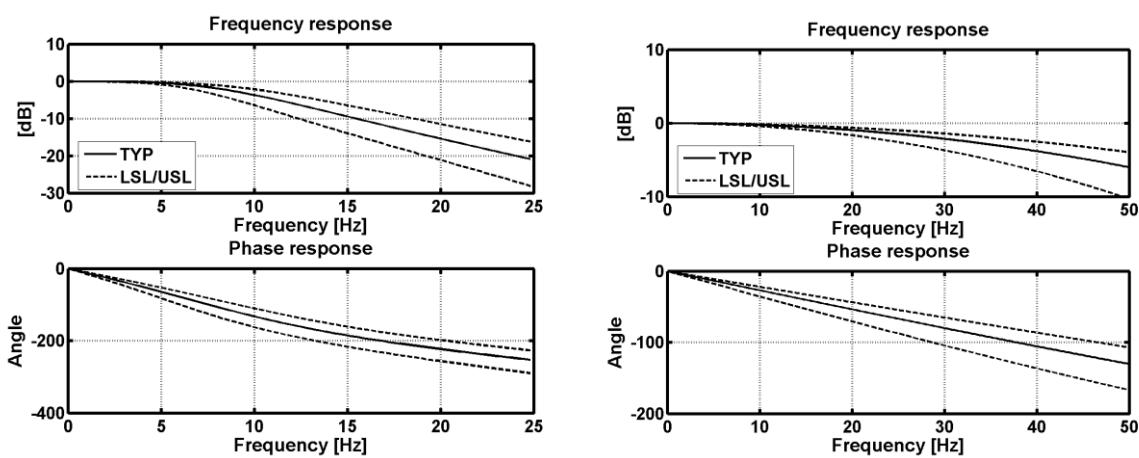

Figure 4 Frequency response of SCA3060-D01 in measurement mode (left) and in wide band mode (right)
9) Frequency responses according to Figure 4.